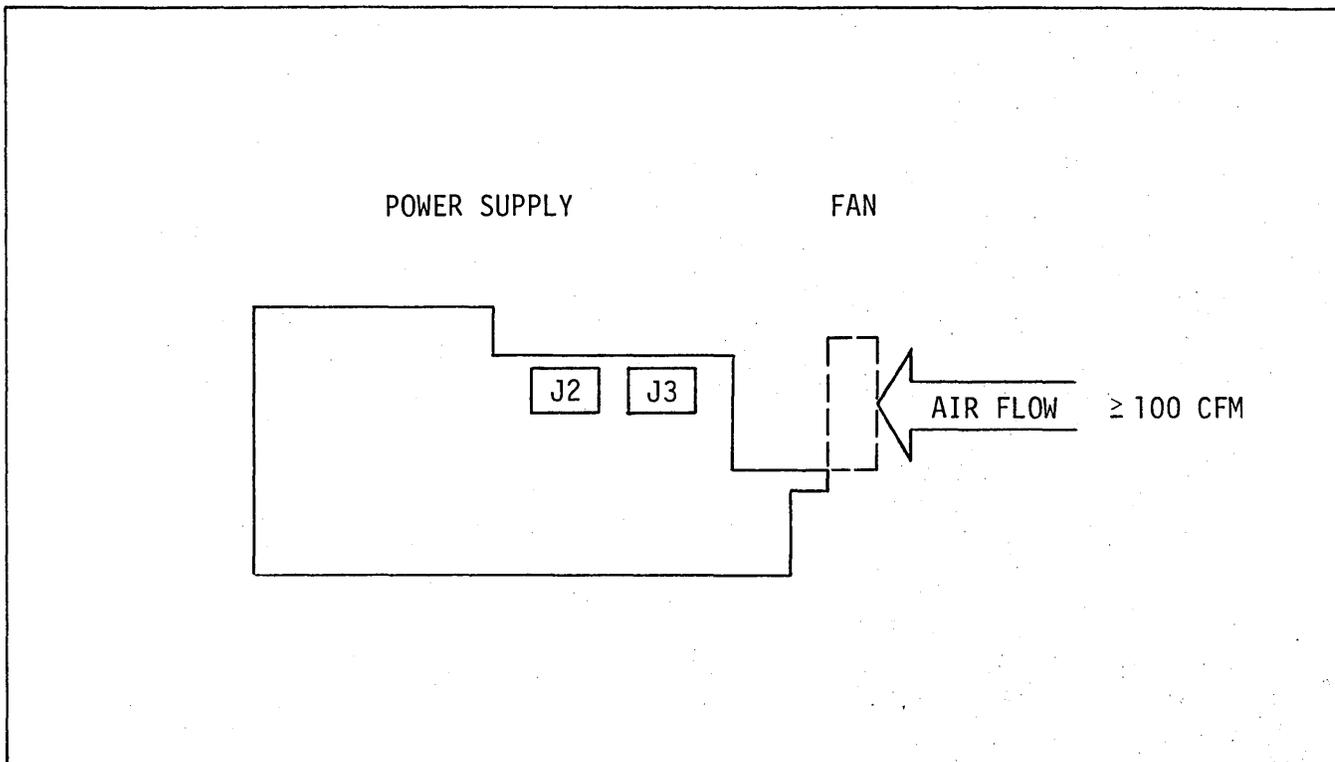

Figure 5-3. External Fan Placement for Adjustment
- d. A cooling fan is positioned in the approximate location of the rearmost fan in the computer chassis when the power supply is installed (refer to Figure 5-3). The fan is plugged into the 115 Vac service outlet on the power supply.